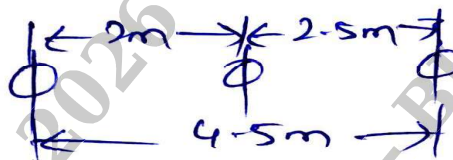

Fig.Q4(c)
- c. A 3 ϕ , 50 Hz, 66 kV overhead line conductors are placed in a horizontal plane as shown in Fig.Q4(c). The conductor diameter is 1.25cm. If the line length is 100 km. Calculate :